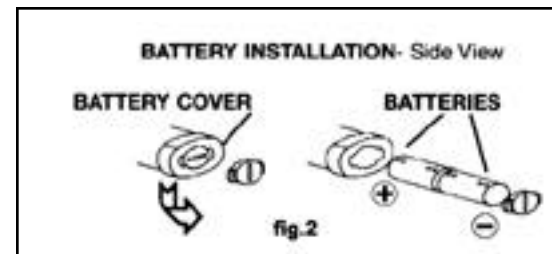

Fig.2
5. At each area checked, the probe should be moved around the location, at a rate no more than 25 to 50 mm/second (1-2 in/second), and no more than 5 mm (1/4 in) from the surface, completely around the position. Slower and closer movement of the probe greatly improves the likelihood of finding a leak (see Fig. 2, below). Any increase in beep rate is indicative of a leak.